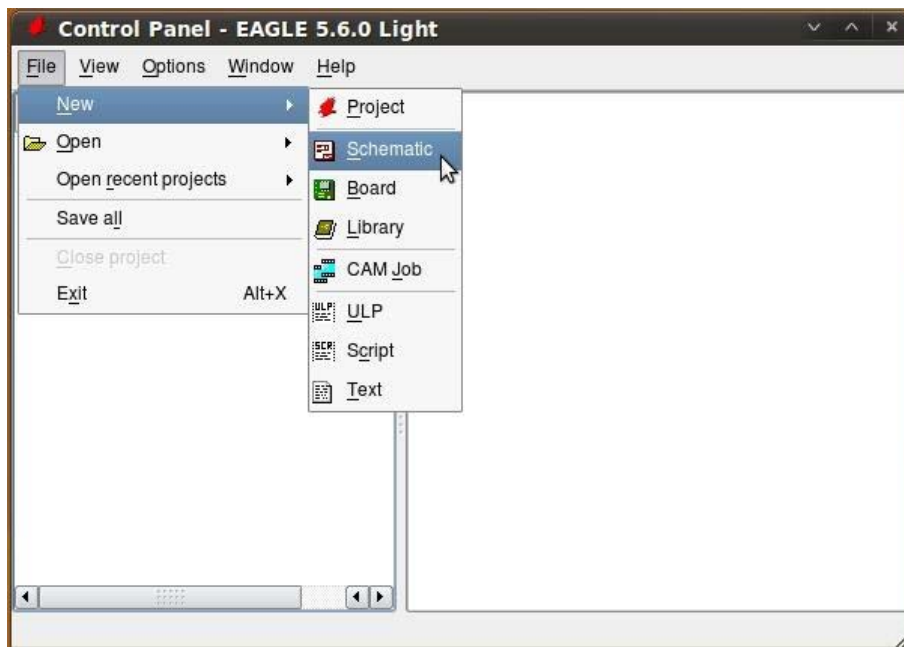

Figure 6-1. Selecting a new schematic from File > New > Schematic
1. *Open schematic editor.* Open the Eagle program on your computer and select File New Schematic from the menu bar as shown in Figure 6-1.